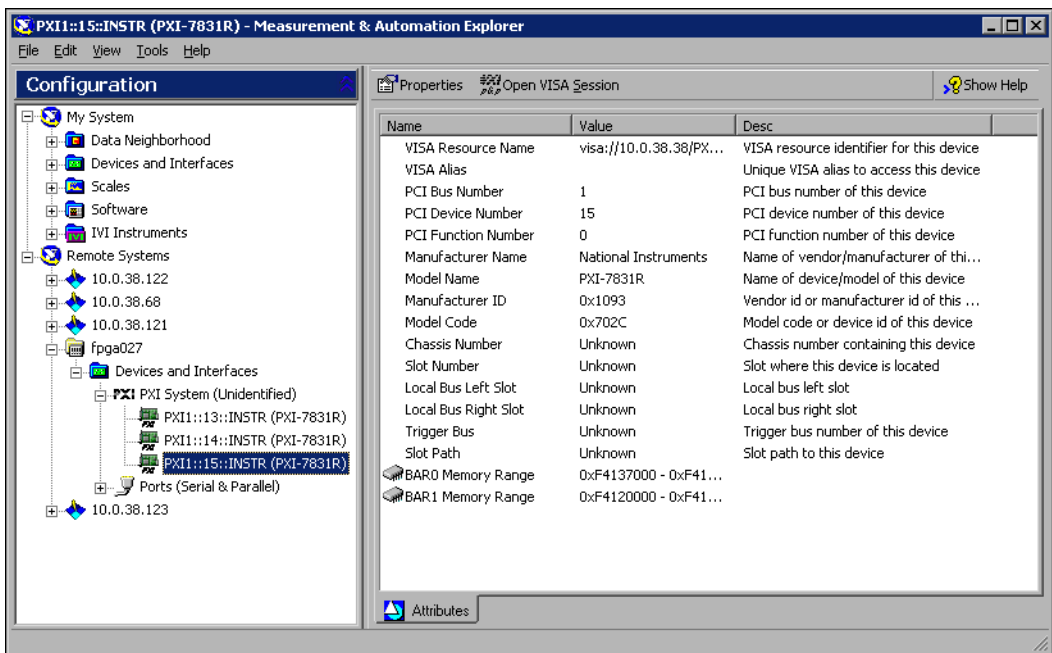

Figure 1. FPGA Device Installed on a Remote System
Figure 1 shows a remote system, named **fpga027**, that contains NI PXI-7831R FPGA devices. Notice that MAX lists the FPGA devices using a VISA resource name. In Figure 1, the selected FPGA device is identified as `PXI1::15::INSTR (PXI-7831R)`. From the VISA resource name, you know that the device is installed in the first bus (`PXI1`) and that the device number is 15.
6. After MAX displays the remote system, locate the FPGA device under the **Remote Systems»Remote System Name»Devices and Interfaces** category, where *Remote System Name* is the name or IP address of the remote system, as shown in Figure 1.
5. After MAX displays the remote system, locate the FPGA device under the **Remote Systems»Remote System Name»Devices and Interfaces** category, where *Remote System Name* is the name or IP address of the remote system, as shown in Figure 1.